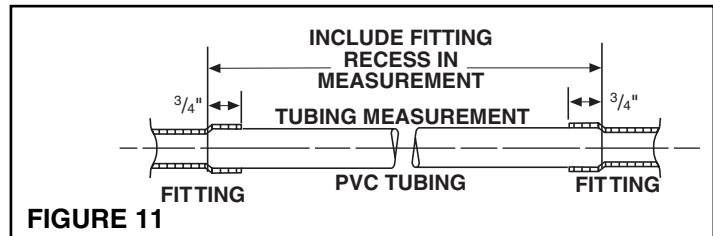

FIGURE 11
7. Refer to Figure 11. Measure length of tubing needed to connect inlet to trunk line. Allow approximately  $\frac{3}{4}$ " of tubing for inserting into fittings.